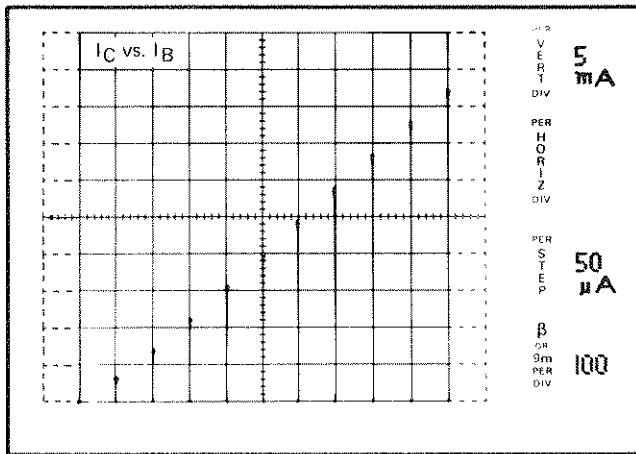

Fig. 2-15. I_C vs. I_B , I_b @ $50 \mu A$ per division.
56. Set the VERTICAL switch to 5 mA and the HORIZONTAL switch to STEP GEN. Note the display of collector current vs. base-current, one step per horizontal division (see Fig. 2-15).